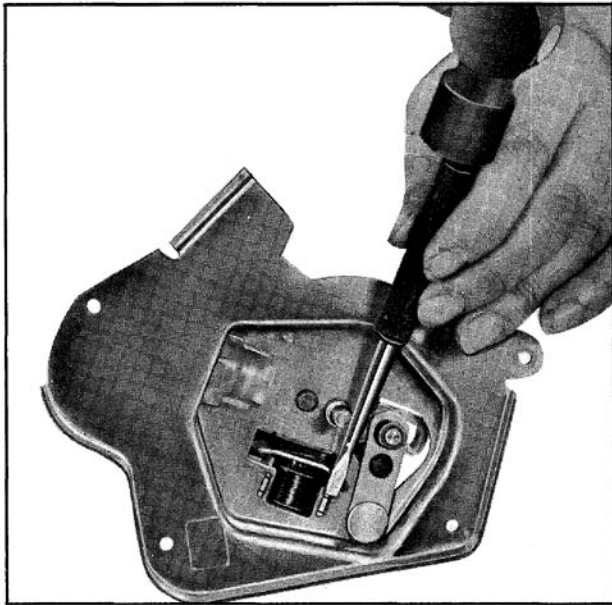

Fig. 13-164 Removing Relay
5. Remove relay as shown in Fig. 13-164.